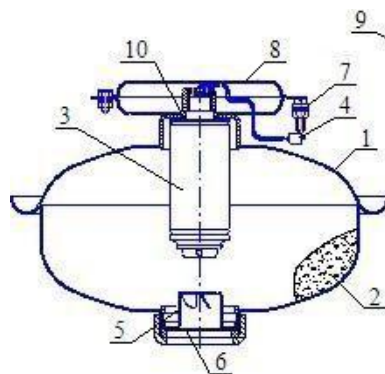
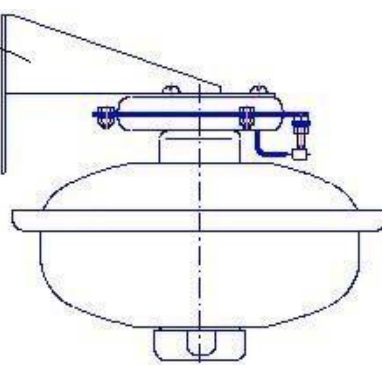
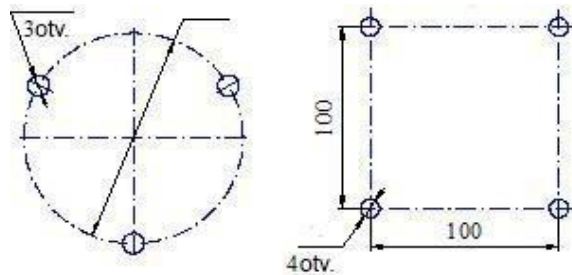

Figure 1
Figure 2
Figure 3
4.1 MPH (Figure 1. and Figure 2.) consists of the pressure body 1 , which includes: extinguishing powder (HP) 2 and cold gas generator (GSP) 3 with electric fuse 4 . On the other side of the hood is the atomizer insert 5 , as well as the outlet, which closes with a membrane 6 . The module is equipped with a grounding terminal 7 . The upper part of the MPH is equipped with a holder for the ceiling 8., or for the wall 9.
6.2 Suspension 8 can be mounted under the ceiling (Figure 1) or suspension 9 (Figure 2) can be attached to the wall. Please mark the places for attaching the suspension as on the (Figure 3) and on the wall acc. (Figures 4, 5).